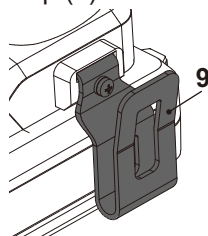

Fig. 18
2. Attach the belt clip (9) to the slot and fix it with screw. (Fig. 18).